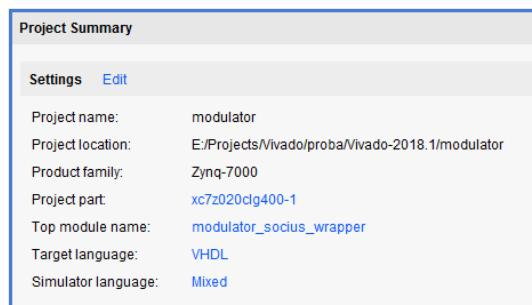

Figure 10.53: Project Settings window
- In the **Project Summary** window (**Settings**) click on the **xc7z020clg400-1**, see Figure 10.53.